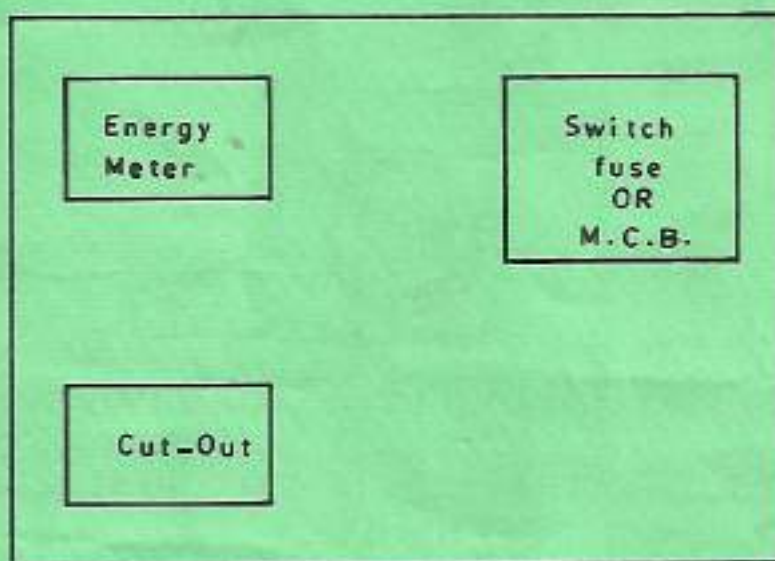

Fig.1 (a)
1. (a) Figure 1 (a) shows the layout of a single phase consumer's intake point. The control gear equipment is pre-installed.